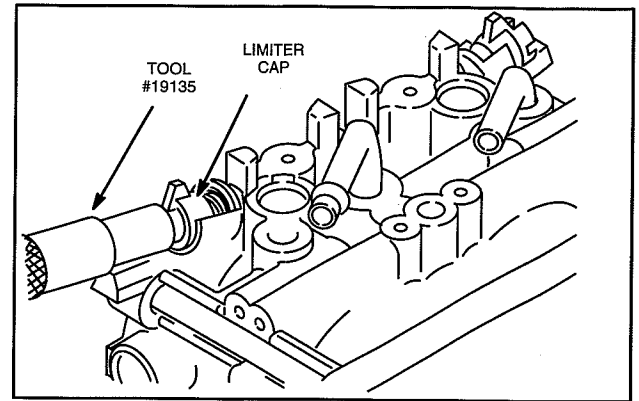

Fig. 145 – Install Limiter Caps
- a. Position limiter cap so that stop on limiter cap is at mid point between stops on carburetor body. Press limiter into position using knock out pin, Tool #19135 as shown in, Fig. 145.